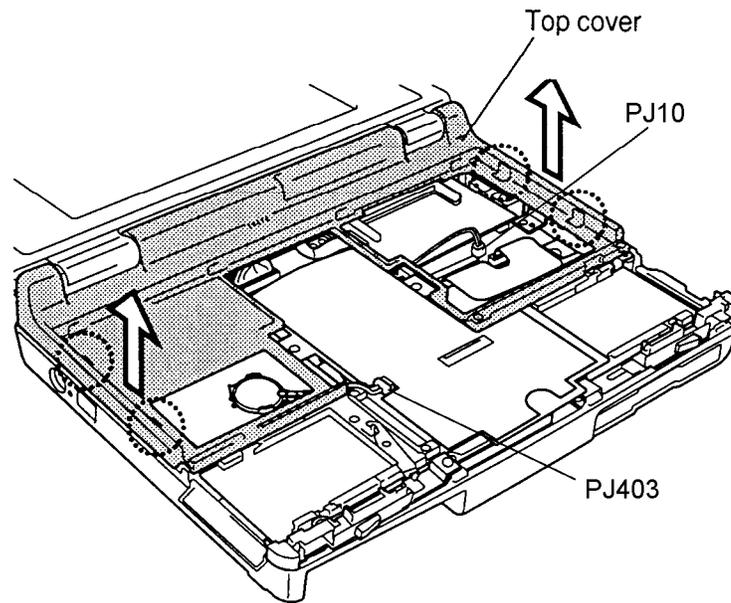

Figure 4-11 Unlatching the top cover
5. Disconnect the RTC battery connector from PJ403 and the speaker cable from PJ10 and unthread their cables, (figure 4-11).
6. Unsnap the **latches** securing the **top cover** to the base assembly. Start by releasing the two front latches (figure 4-11). You may need a small jeweler's screwdriver to release the latches on a newer unit.
7. Continue around the rim of the **top cover** until all latches are released, then carefully lift up the **top cover** (figure 4-11).
2. Begin at the back and snap the **top cover** into place. Snap the side latches (figure 4-11). Be sure the RTC battery cable and speaker cable are not caught under the top cover.